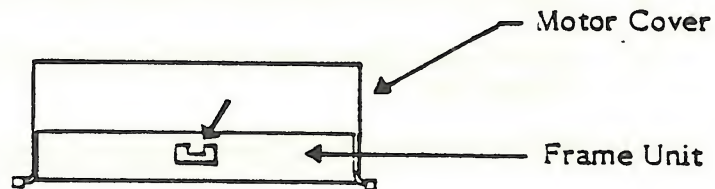

Figure 6-5. Motor Cover Removal
- Insert a flat blade screwdriver between the motor cover and frame unit (see Figure 6-5). Gently push the cover up and slightly forward to remove it.
- Replace the motor cover. Tab at right front of cover fits over side frame, in front of screw which holds Paper Feed Motor. Then back of cover slides inside frame unit (Refer to Figure 6-5).